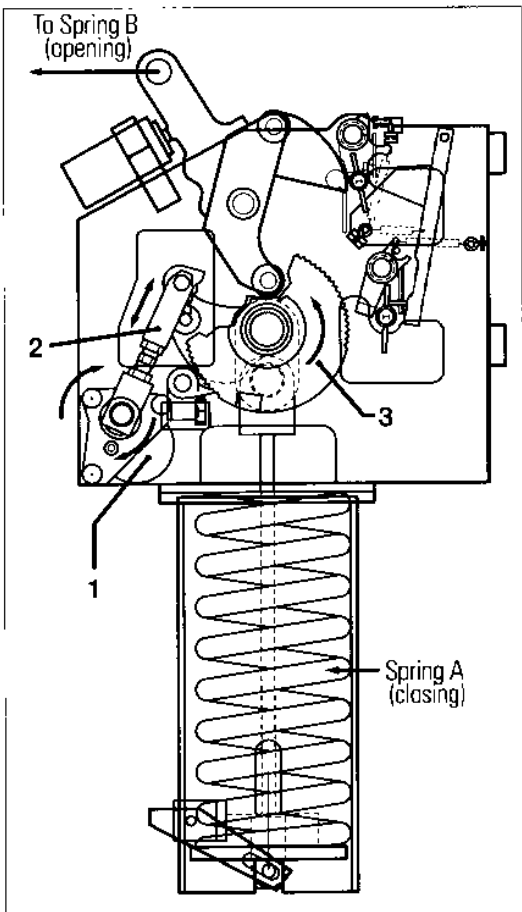

Fig. 1 Spring discharged breaker open
As shown in Fig. 1, the closing spring is discharged and the breaker is in the open position. Before a closure can be initiated, Spring A must be charged. This is accomplished by a motor (1) with a ratchet arm (2), which imparts motion to a wheel (3) within the mechanism. The wheel turns (CCW) until Spring A is charged.